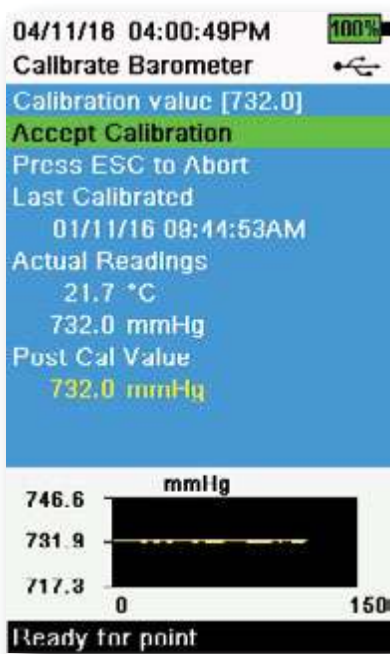

Figure 51 Calibrate Barometer
- Select **Accept Calibration** (Figure 51). “Calibration successful!” will be displayed in the message area.